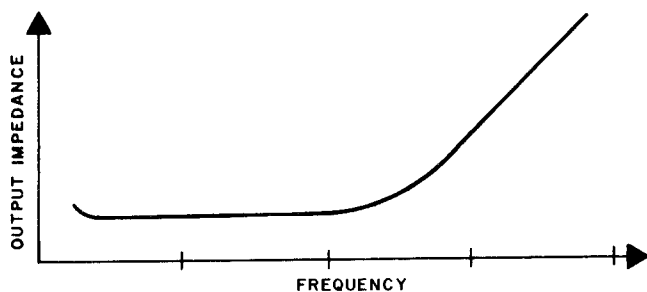

FIG. 3-2 TYPICAL OUTPUT IMPEDANCE VS. FREQUENCY FOR STABILIZED VOLTAGE SOURCES.
- 3-15 LOAD WIRE SELECTION. The feedback-stabilized d-c power supply is definitely not an ideal voltage source with zero output impedance at all frequencies. All power supplies of this type exhibit a rising output impedance with increasing frequency (refer to FIG. 3-2).